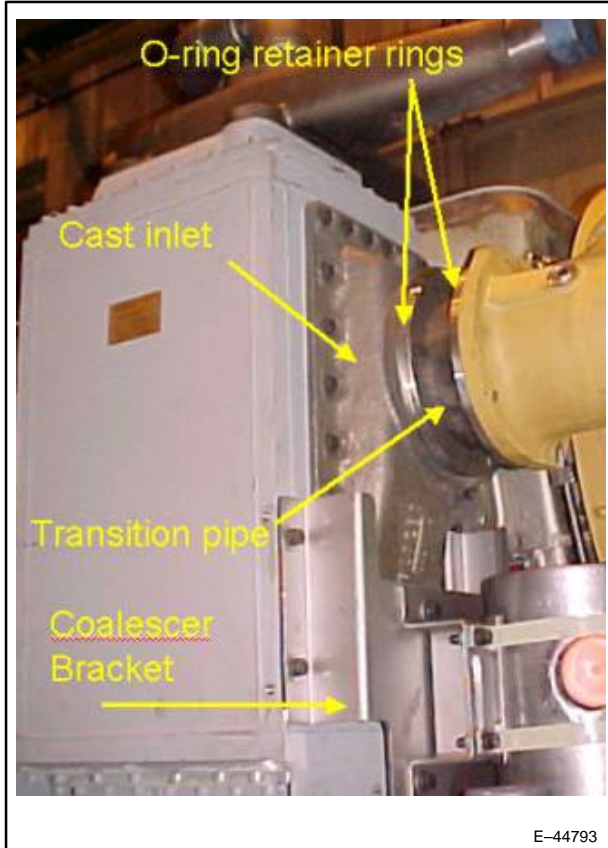

Figure 66. Parts Location. Right Intercooler, Front End.
Several steps are necessary in the removal of the intercoolers. Refer to Figures 66 and 67 for reference regarding part locations.
6. Apply cast inlet and outlet sections to left and right intercoolers with new gaskets (Figure 66). Torque to 55 to 60 lb.-ft.